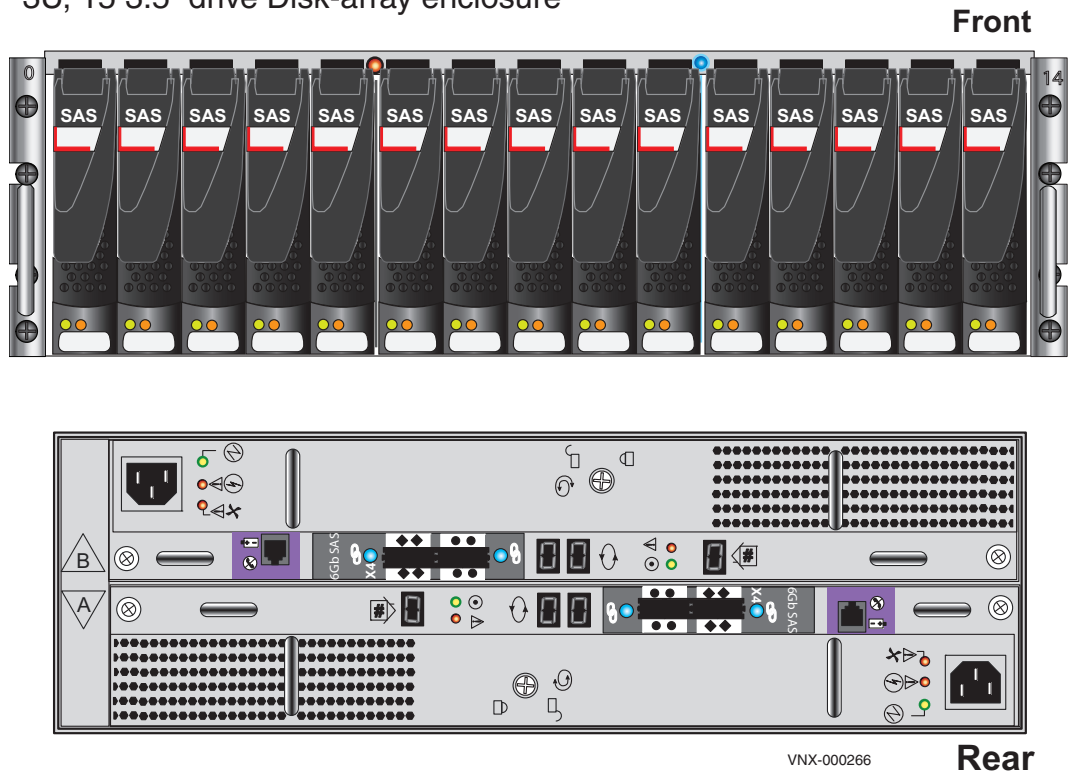

Figure 15 3U, 15 3.5" drive DAE
- ◆ 3U, 15 3.5” drive DAE shown in Figure 15 on page 26.
In this example, two DAEs are being added. This example illustrates connecting one DAE to each of the ports available on the DPE. Each DAE has two Link Control Cards (LCC), designated A or B, as shown in Figure 15 on page 26.